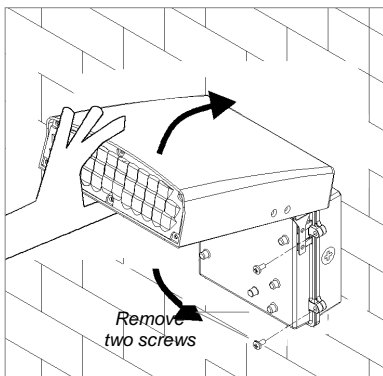

FIGURE 1
- Rotate the luminaire front housing as far as possible, and remove the two back housing screws (see FIGURE 1).